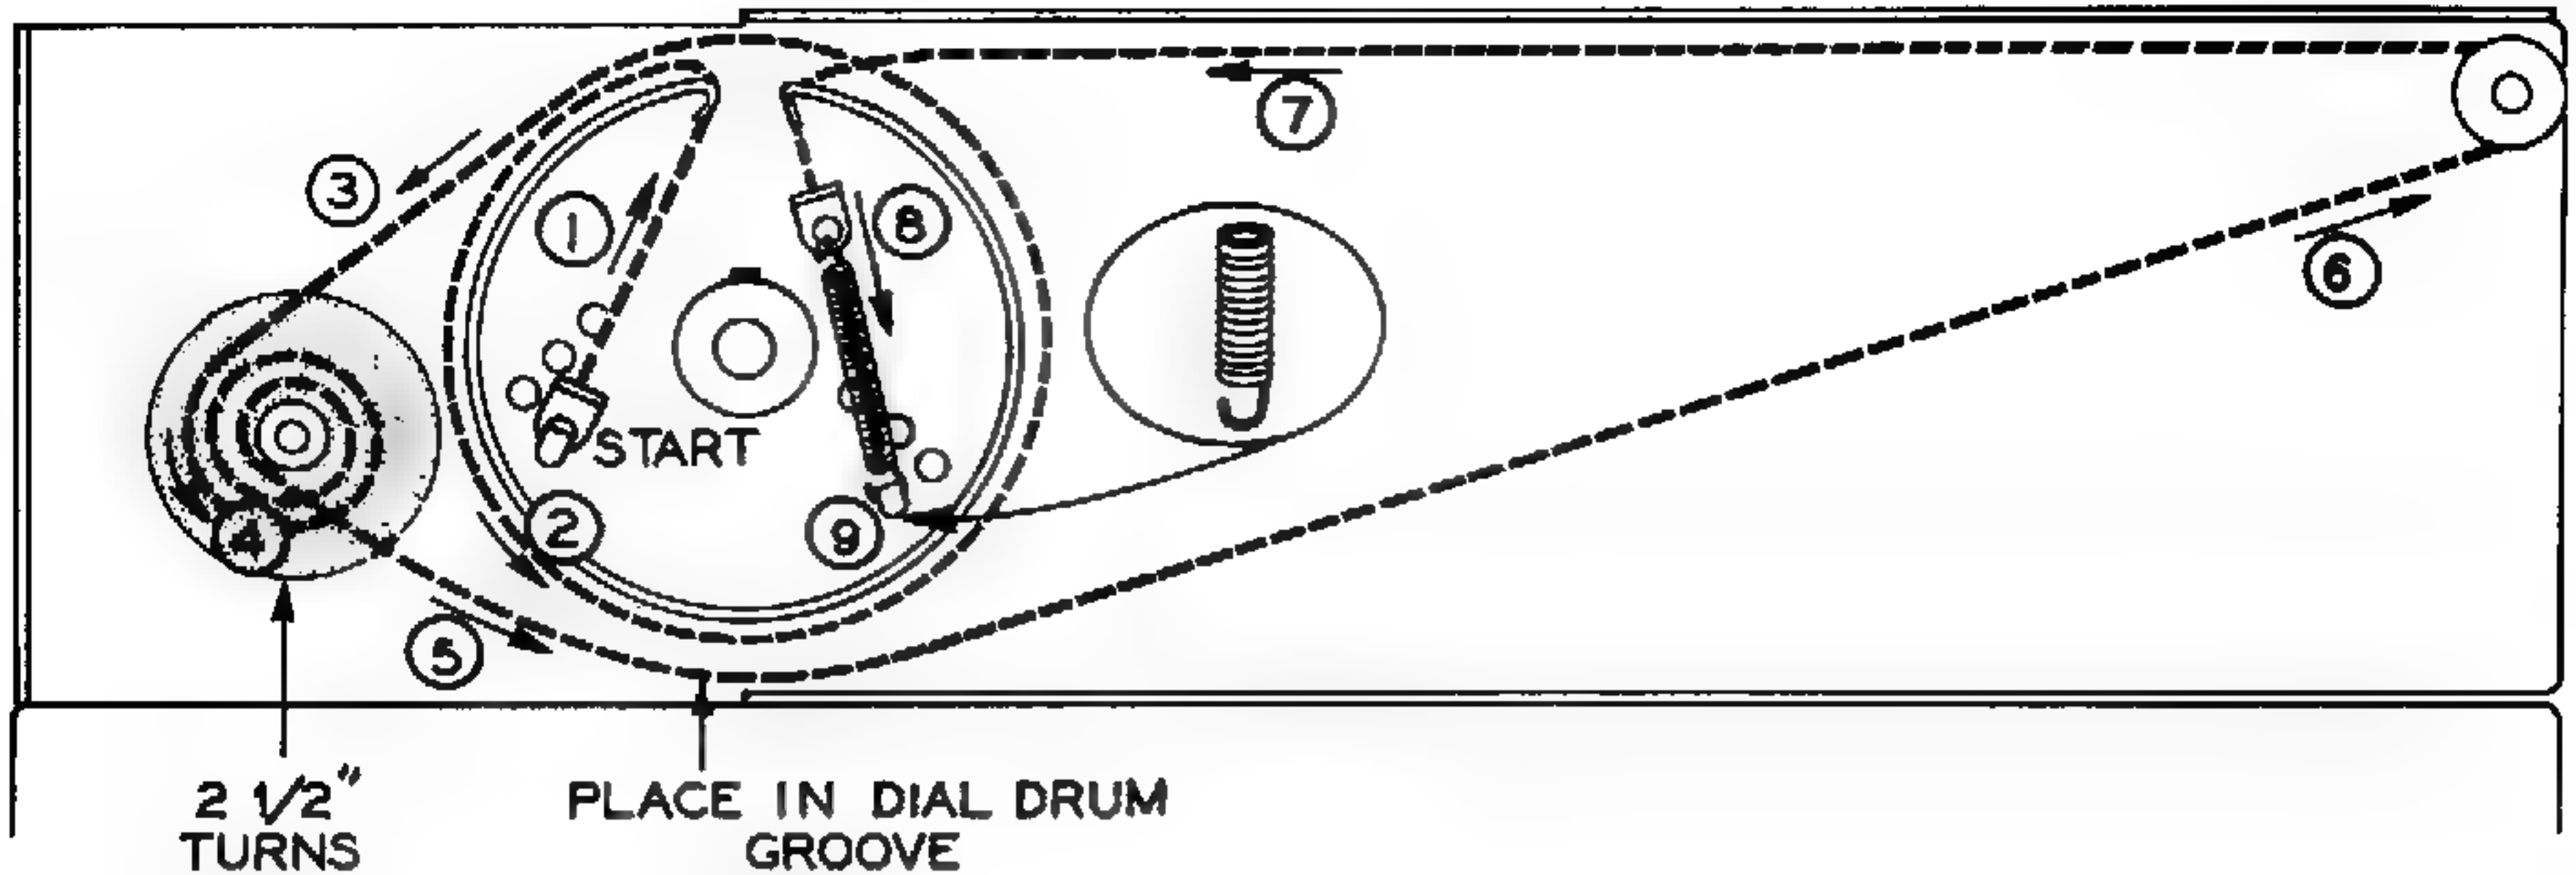

Figure 20
- ( ) Make sure the plates of the MAIN TUNING capacitor are fully meshed and the hole in the outer edge of the dial drum is straight up, as shown in Figure 20. Now tighten the setscrew in the dial drum bushing. The dial drum should be even with the end of the MAIN TUNING capacitor shaft.
- ( ) Locate the dial cord and the dial cord spring. Connect the dial cord spring to the eyelet at one end of the dial cord. At the other end of the dial cord spring, make a small hook as shown in the inset in Figure 20.
- ( ) Referring to Figure 20, string the dial cord starting at 1.